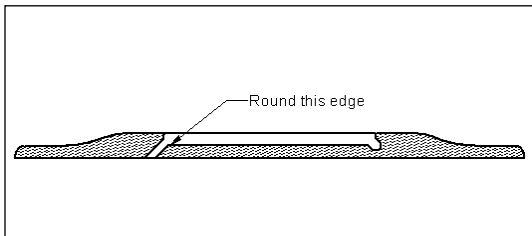

FIGURE 2
6. Round the inside of the hole where it meets with the bottom of the slot using a small file or knife. This will allow the pickup to make a more gradual transition into the slot and promote better balance. (Refer to Fig. 2).